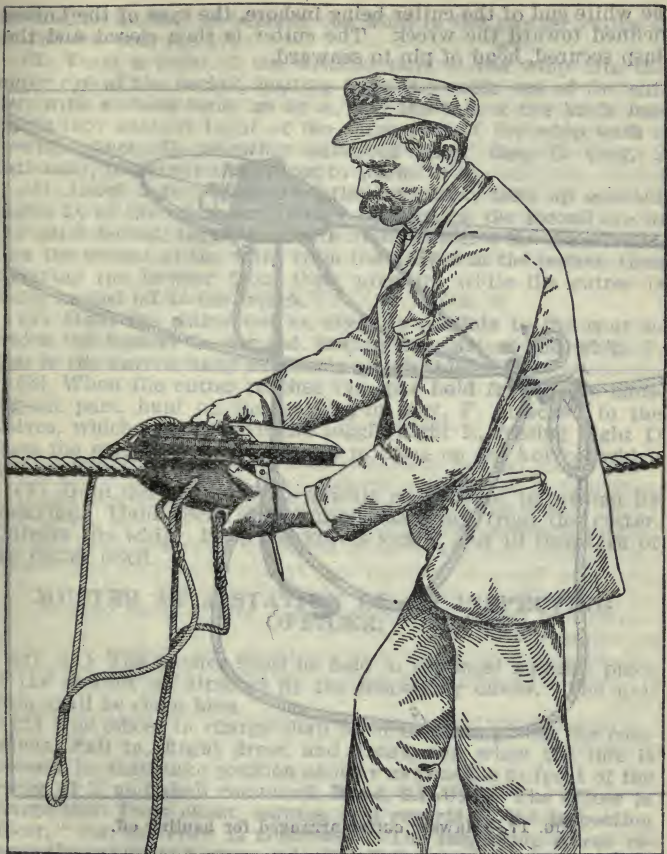

FIG. 16.—Applying hawser cutter.
411. (1) After the crew is landed from a stranded vessel, it may be necessary to detach the hawser from the wreck, either for the purpose of using it elsewhere or because the wreck is rapidly breaking up. In either case the hawser cutter should be used. To do this, the breeches buoy is first removed, and then, facing the wreck and standing on the left of the hawser, the cutter is placed upon it by grasping it, as shown in figure 16,